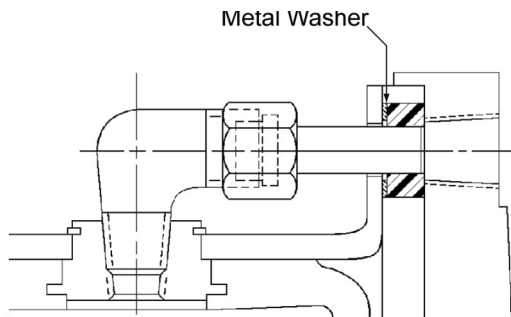

Figure 7
- 2.6.5 Install the air connection gaskets onto the air tubes. The metal backup washer is to be positioned toward the elbow (away from the spider). See Figure 7 .
2.79 Install the air connection gaskets onto the air tubes. The metal backup washer is to be positioned toward the elbow (away from the spider). See Figure 7 .